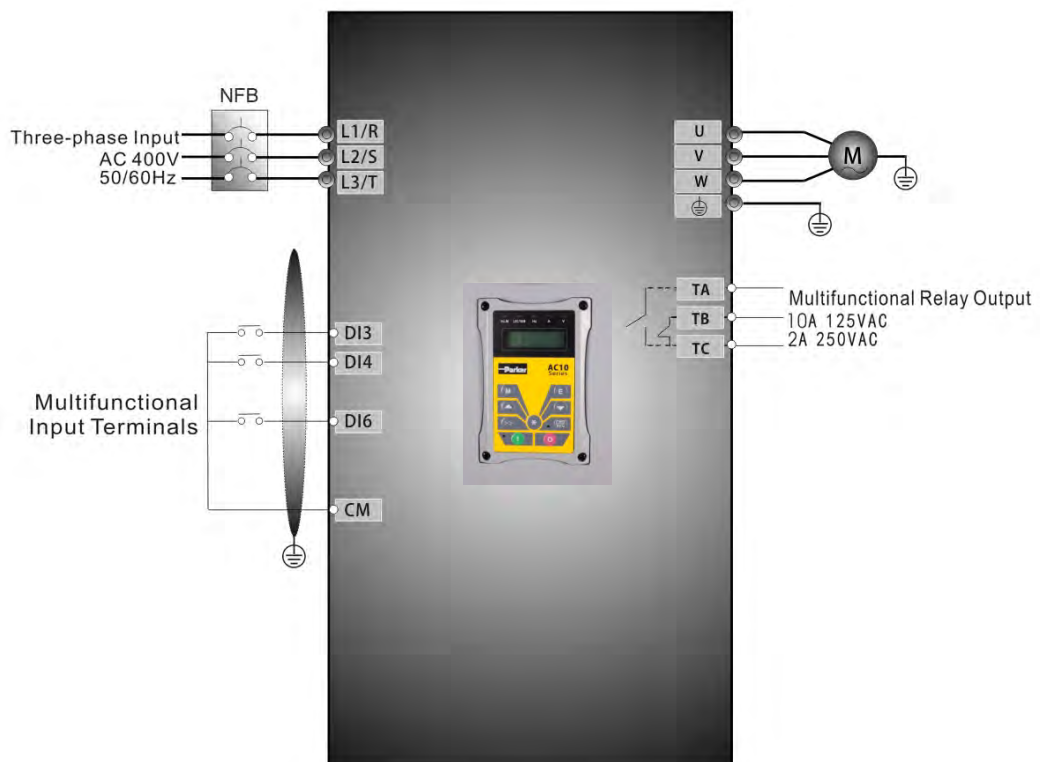

Figure 8-2 Wiring Diagram 2
- i. Connect the wires in accordance with **Figure 8-2**. After having checked the wiring successfully, switch on the air switch, and power on the inverter;